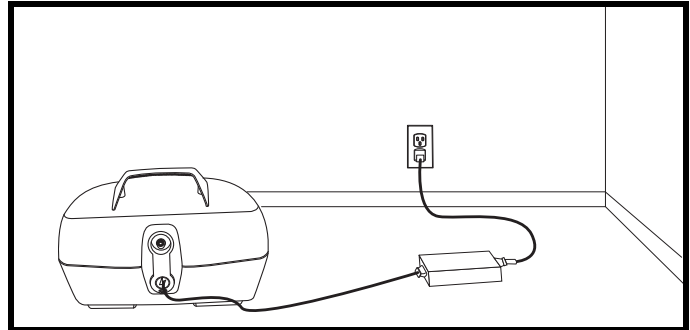

Figure 14. Charging The Batteries (Battery Pack Removed)
1. Position your Travel Scooter or battery pack close to a standard electrical outlet. See **figure 14**.